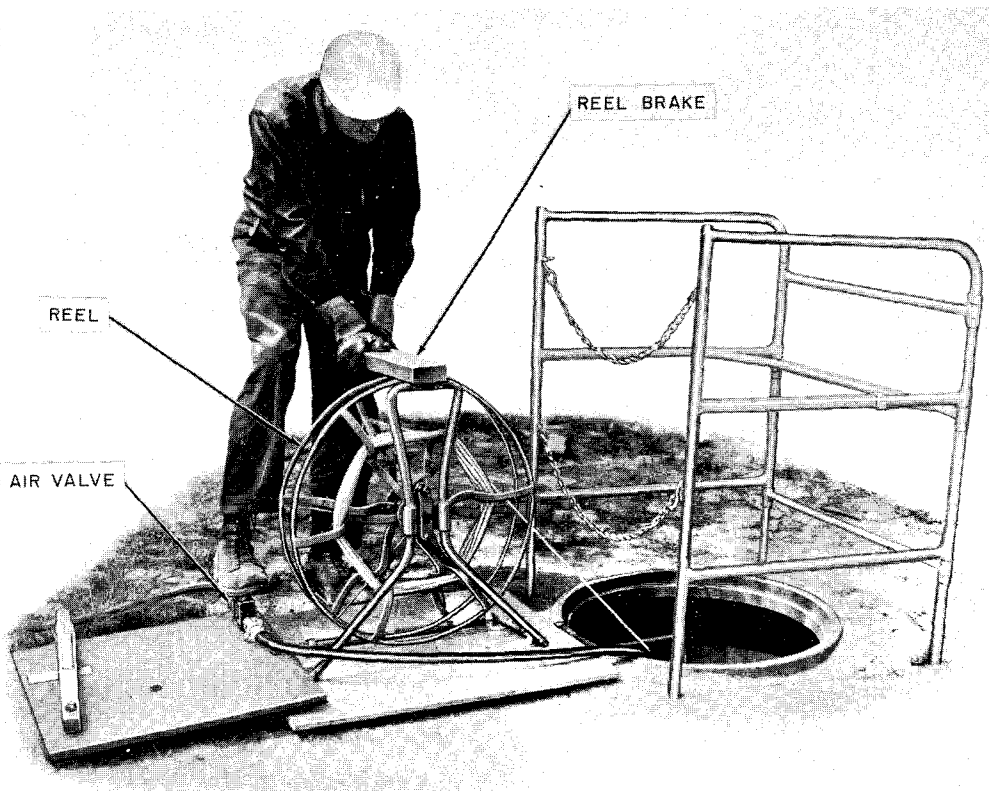

Fig. 11—Placing B Fishline from Modified C Drop Wire Reel
5.06 Depress the air valve while maintaining some braking on the reel (Fig. 11).